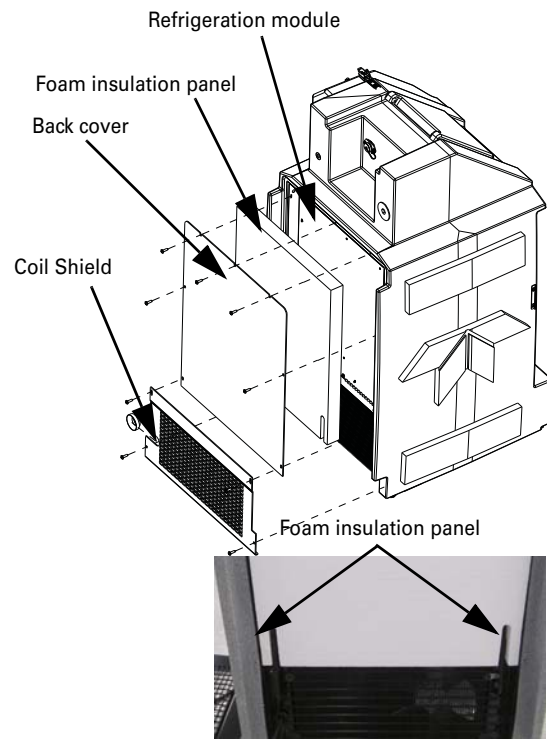

Figure 1: Open rear compartment
2. Remove the coil shield, back cover, and insulation panel (Figure 1). When removing the foam insulation panel, take precautions not to damage the foam panel, tubing (see inset, Figure 1).